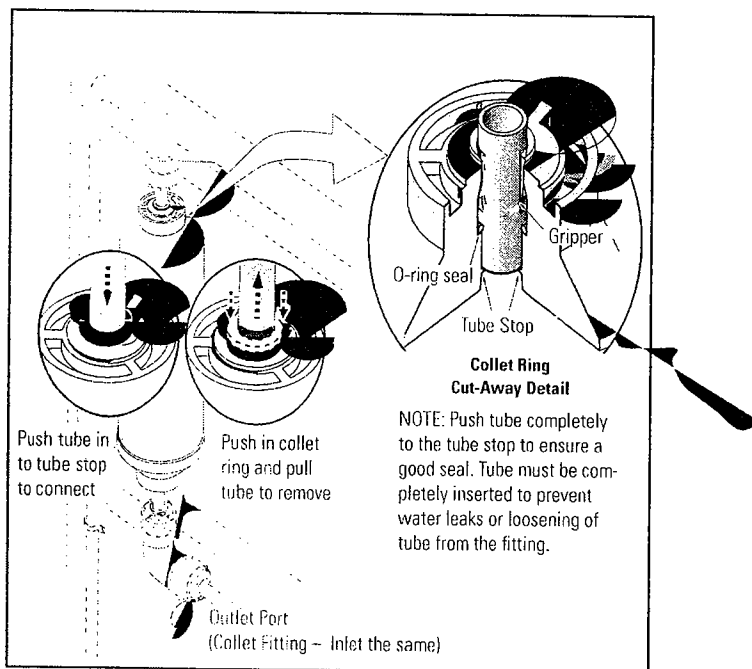

Figure 1 Collet Style Fittings:
4. Connect the inlet lines. See Figure 1 below.